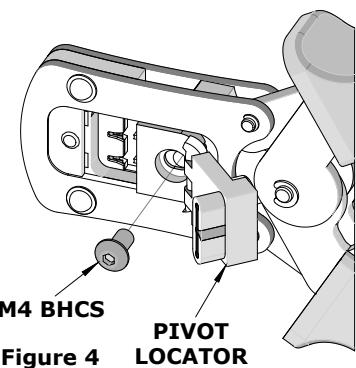

Figure 4 PIVOT LOCATOR
2. Remove the M4 BHCS. See Figure 4.
1. Place the locator on the hand tool. Install the M4 BHCS. See Figure 4.